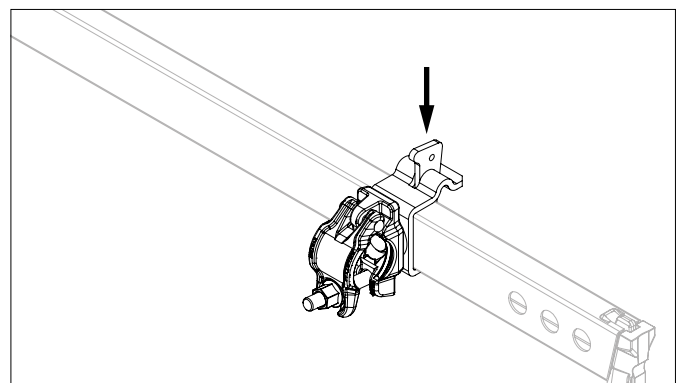

Fig. A10.04b
2. Insert the wedge into the clamping part and hammer it tight. (Fig. A10.04b)